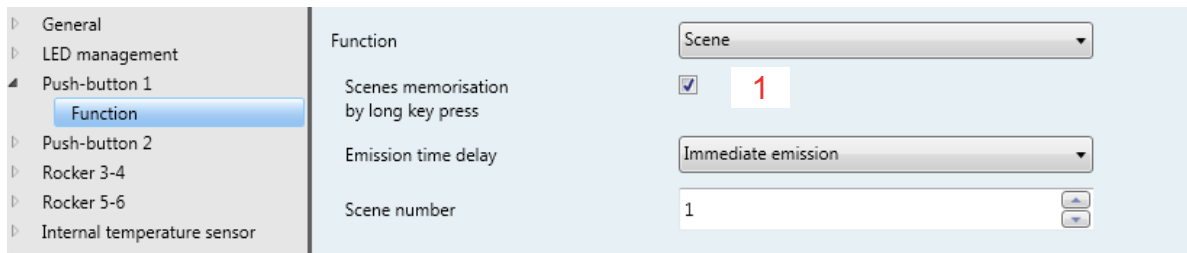

Figure 30: "Scene" function
If the scene memorisation function is activated with a long key-press, the scene parameter values can be connected to the device and stored with a long key-press. Scene memorisation can also be deactivated with a long key-press (untick box Bild 30, 1).
- Switch on scene (in this example "Scene TV") by briefly pressing the button (Bild 30, A-1)
- Change lighting intensity, dim up or down (Bild 30, B-1)
- Change, open or close blind position (Bild 30, B-2)
- Hold the button for "Scene TV" for longer than 5 s (Bild 30, C-1)